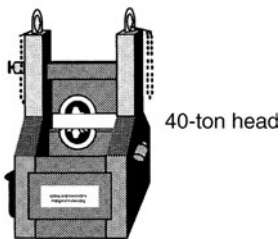

FIGURE 1-7. Aluminum connector tool.
Hydraulic pumps for aluminum connector tools come in many sizes. Figure 1-7 illustrates a typical pump. It weighs only 95 pounds and operates on 120 volts AC. It has a 1-horsepower motor that can pump 115 cubic inches of hydraulic fluid per minute at 2500 pounds per square inch or 57 cubic inches per minute at 10,000 pounds per square inch. Foot- and hand-operated switches are used to control the motor, which, in turn, drives the pump. The high pressure generated provides the force to crimp the aluminum cable.
The heads are the tools that actually do the work of compressing the cable and lugs to make good, tight fits. Heads are available in different sizes to fit the requirements of particular jobs. They are identified by the amount of pressure they are able to exert on a connection. Three common types of heads are shown in Figure 1-7.
The 12-ton head, shown in Figure 1-7, is made from forged steel. It weighs 7½ pounds. When in use, it can apply 12 tons of pressure, or 24,000 pounds per square inch. The dies that fit into the head are color-coded to match color-coded connectors. A 12-ton head installs aluminum lugs and splices wire from 12 to 750 MCM.
**Fifteen-Ton Head.** The 15-ton head can apply 30,000 pounds per square inch of pressure. It is used to install aluminum lugs, taps, and splices for #12 AWG to 1000 MCM. The 15-ton head shown in Figure 1-7, weighs 15½ pounds and can be operated up to 100 feet from the electric hydraulic pump. Compression dies are available in two types: one that fits directly into the head and is used for large cables; and one that is used in combination with an adaptor for small conductors. All dies are color-coded to match the color-coded connectors.